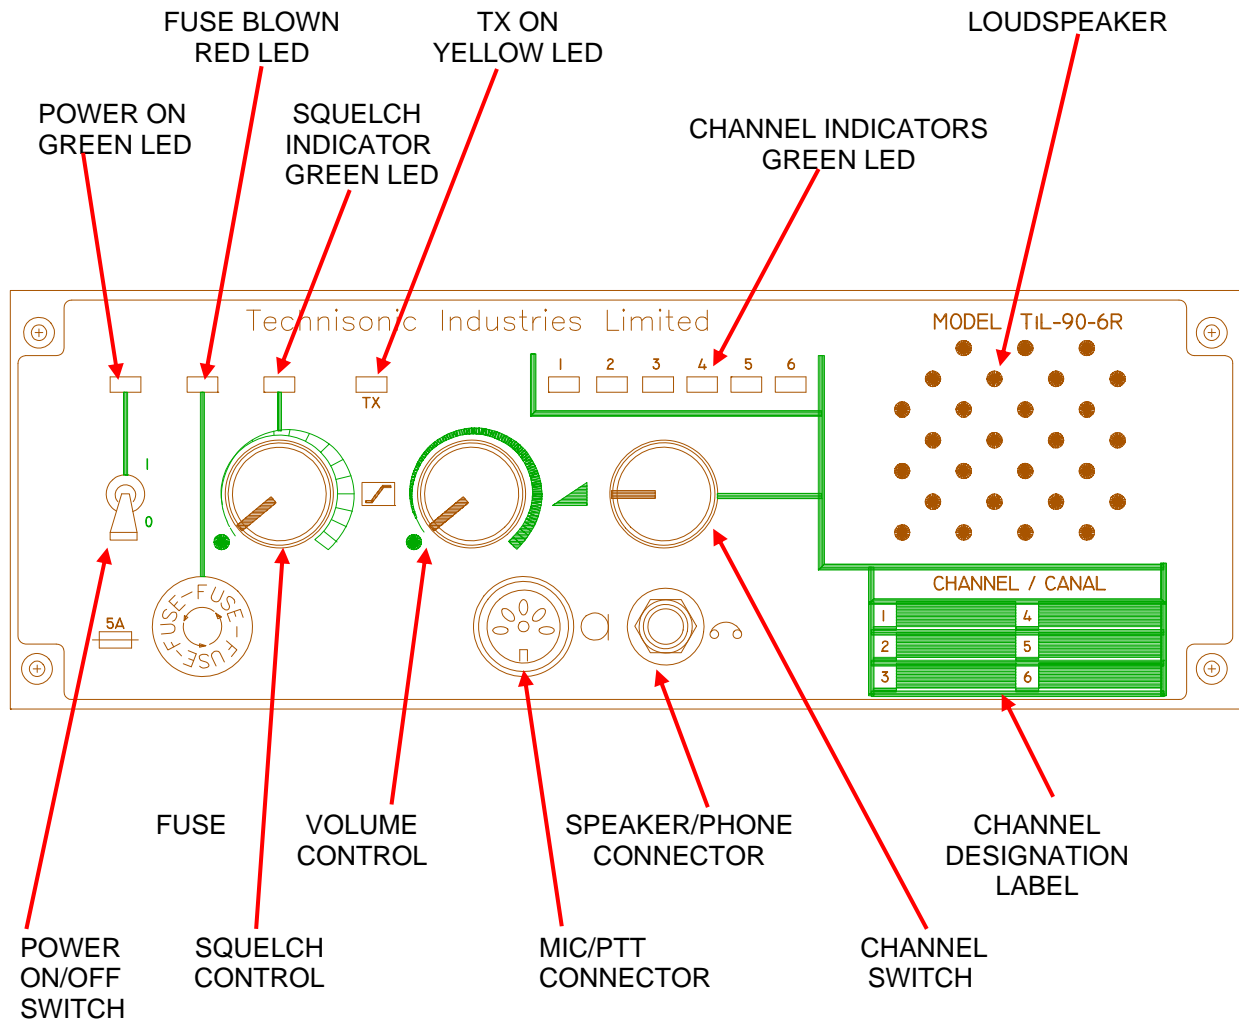

Figure 3.1 Transceiver Front Panel Layout
- (1) A view of the transceiver front panel is given in Figure 3.1. Front panel controls are identified by pictograms. Each pictogram shows the function performed by the control. These pictograms are translated into words by the annotations of the illustration.
- (2) A functional description of each of the operator's switches, controls and indicators, together with the microphone PRESS-TO-TALK switch, is given in Table 3.1, Operator's Switches, Controls and Indicators.